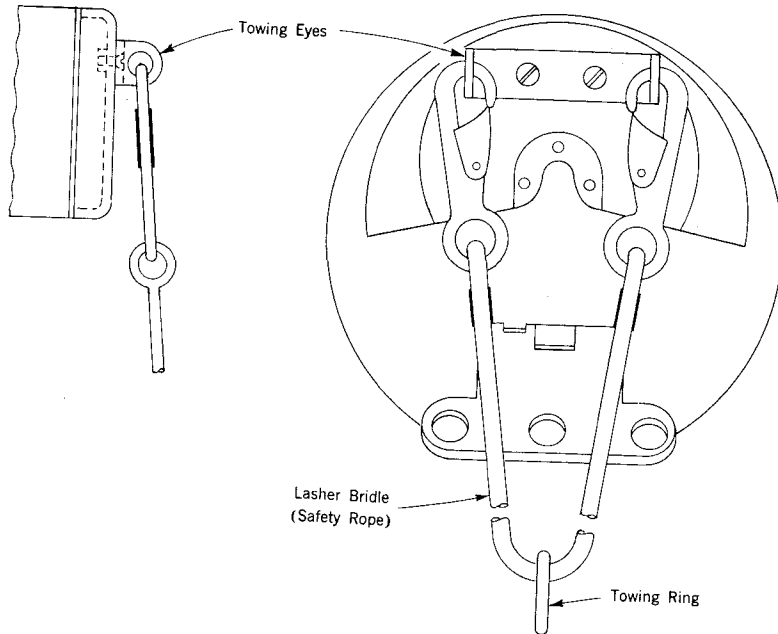

Fig. 18—B Lasher Kit Installed on D Cable Lasher
8.04 The B lasher kit consists of a towing eye (which is directly attached to the lasher) and a lasher bridle. Figure 18 illustrates the parts of the B lasher kit installed on a D lasher.